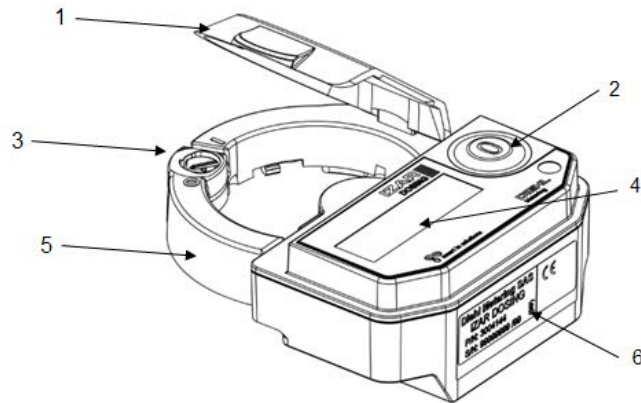

fig.1
IZAR DOSING (fig.1) comprises a polycarbonate ring (5), which may be clipped onto any Diehl Metering modular "Ti" water meter. Its front side features a 5-digit display (4) and a reset button (2).